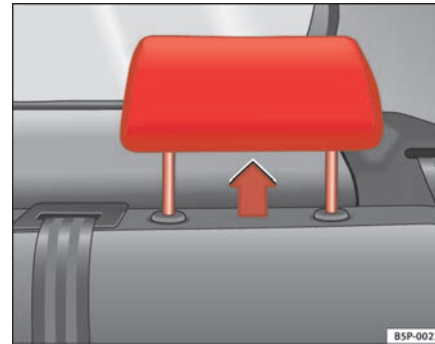

Fig. 5 Head restraints in correct position
- Three positions for **use** ⇒ **fig. 5**. In these positions, the head restraints are used normally, protecting passengers along with the rear seat belts.